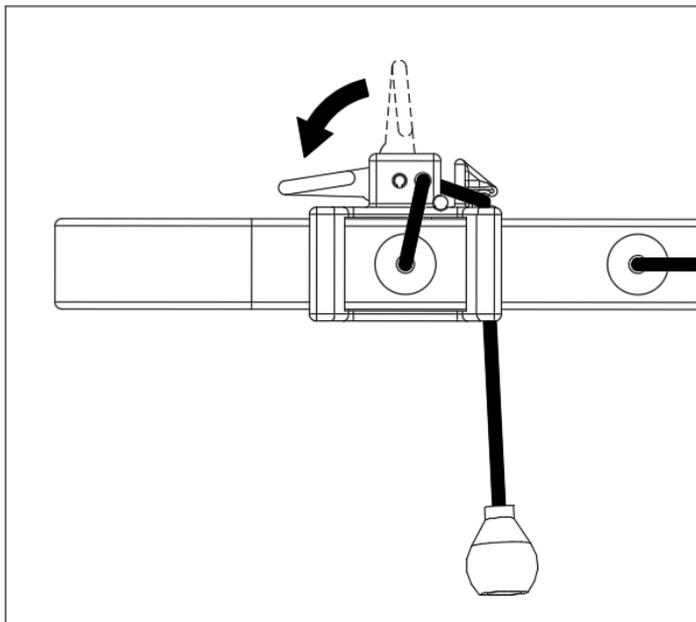

Fig 2. Pull cord tight, feed through hole in L.T.L. and lock down lever.
8. Tie off the cord and lock the L.T.L. (Figs 2 & 3)
9. Tie off the cord and lock the L.T.L. (Figs 2 & 3)